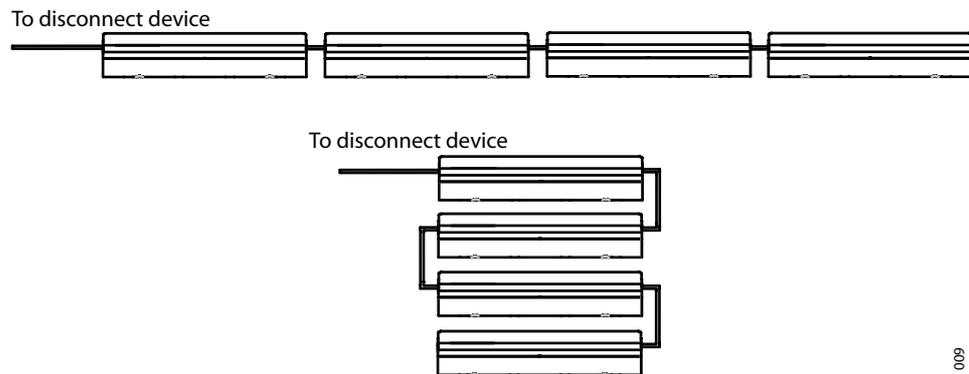

Figure 4. Examples of how CR3 Charging Racks can be mounted and connected by fixed installation to a power source.
Different ways to mount CR3 Charging Racks is shown in figure 4 on page 9. It is possible to set up different combinations of CR3 Charging Racks and Battery Pack Chargers. A maximum of four CR3 Charging Racks (or Battery Pack Chargers) can be serially connected to the same LAN source.
- 1 If the additional Charging Rack has not yet been mounted on the wall, do this according to figure 4 on page 9.